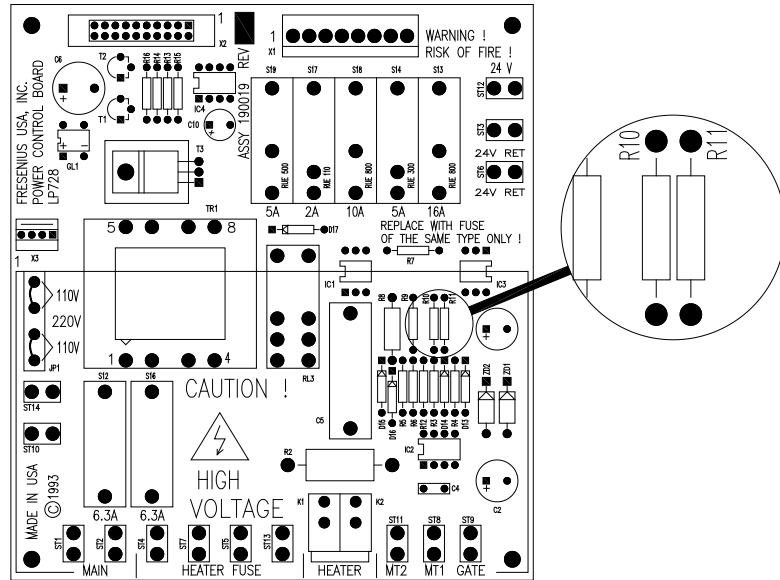

Figure 17 – R10 & R11 on Power Control Board
1. Locate resistors R10 and R11 on the power control board (see Figure 17).